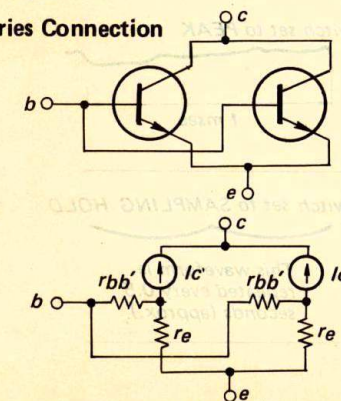

Fig. 10
In Fig. 10, two transistors are shown as connected in series. The $r_{bb'} + r_e$ factor in the equivalent circuit will become $1/2$, so $(r_{bb'} + \frac{r_e}{2})$ will also become $1/2$. Consequently, according to formula (2), noise will become $1/\sqrt{2}$, that is, a reduction of 3 dB. If n transistors are connected in series, noise will be reduced by $1/\sqrt{n}$.